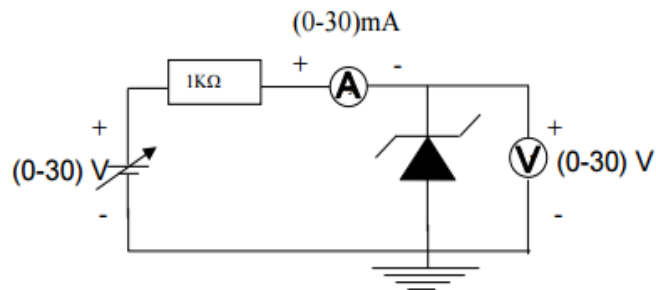

Figure 7.4: Zener Diode in Reverse Bias
1. Assemble the circuit on breadboard with the Zener diode, as shown in Fig. 7.4. keep in mind that initially the magnitude of current flowing in the circuit will be very small.